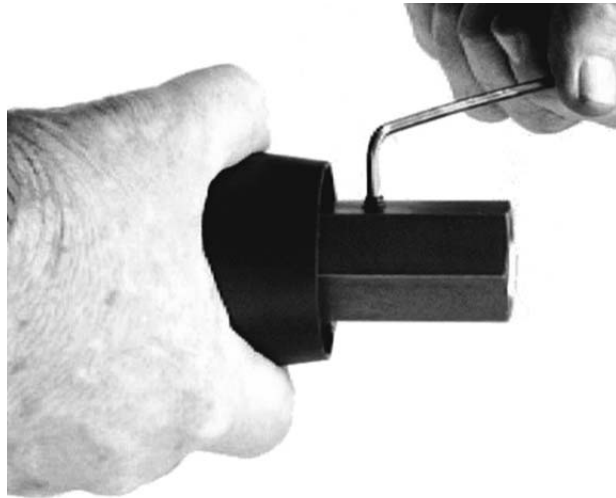

Figure 9-23. Tighten Set Screw.
7. Insert the Cone Point Set Screw (19) and tighten to prevent the Adapter from backing off of the Valve Stem. Refer to Figure 9-23.